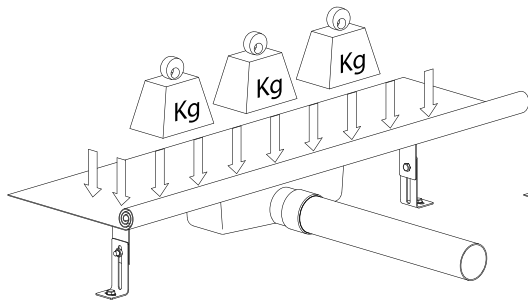

Fig.8
- 2.4- Put a heavy element on the flange like a press during the setting time of the adhesive. Follow adhesive manufacturer's instructions. (see fig. 8).